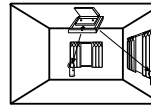

Fig. 4
- **Ceiling Mounted** (for optimal results Wireless GBR is centered and directed towards protected glass, using the supplied swivel adaptor, see fig. 4).